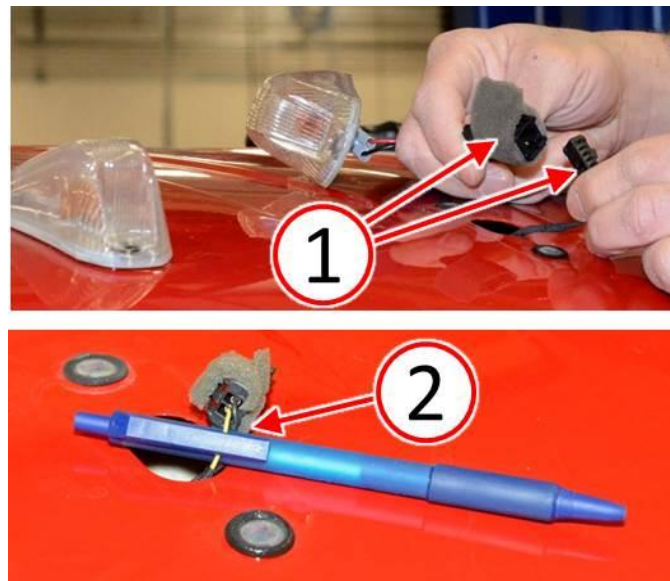

Fig. 4 Disconnect Roof Clearance Lamp
3. Disconnect the electrical harness (1) from the roof clearance lamp and discard the lamp (Fig. 4).
4. Using a plastic ink pen (2) or equivalent non-metallic object, temporally secure the wire harness connector to prevent it from falling into the roof opening while replacing the lamp assembly (Fig. 4).